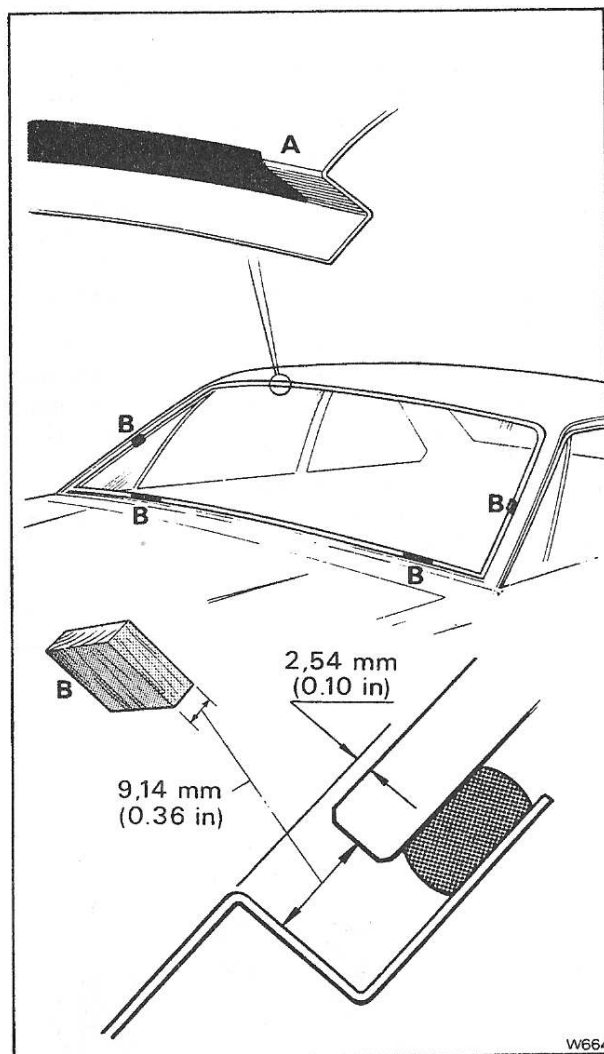
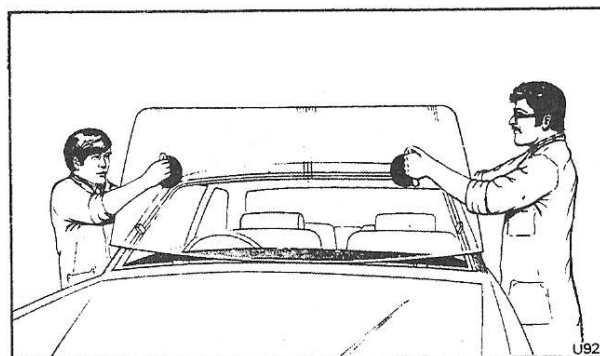

Fig. S144 Spacers in position and depth of windscreen inside aperture recess (Camargue)
Fig. S145 Placing the windscreen into the aperture (Camargue)
31. Remove the windscreen, lifting it out with the rubber suction pads (see Fig. S145).
2. Place Gosheron tape or its equivalent around the vertical face of the aperture (see Fig. S144, item A). The tape protects the paintwork and restricts the spread of excess Betaseal.
11. Fit two spacers into the bottom of the windscreen aperture to support the glass. Set them approximately 150 mm. (6 in.) from each 'A' post (see Fig. S144).
12. With the help of an assistant, pick up the glass with two suction pads (see Fig. S145). Place it carefully into the aperture, resting it on the bottom spacer blocks and placing two further blocks half-way up each 'A' post to centralise the windscreen glass (see Fig. S144). Do not apply excessive pressure to the windscreen; press the